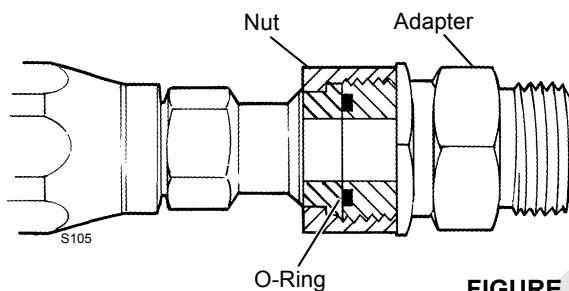

FIGURE 2-11
- Lubricate and install O-ring in adapter groove (Figure 2-11).